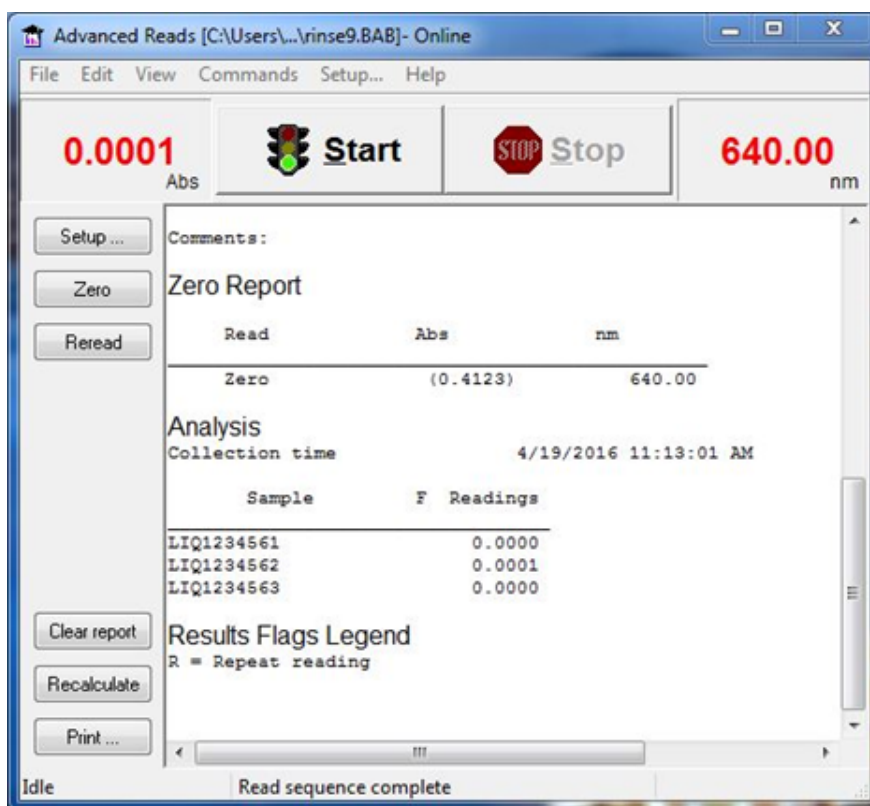

Figure 15 : Viewing results in real-time
- View the results in real time (Figure 15).